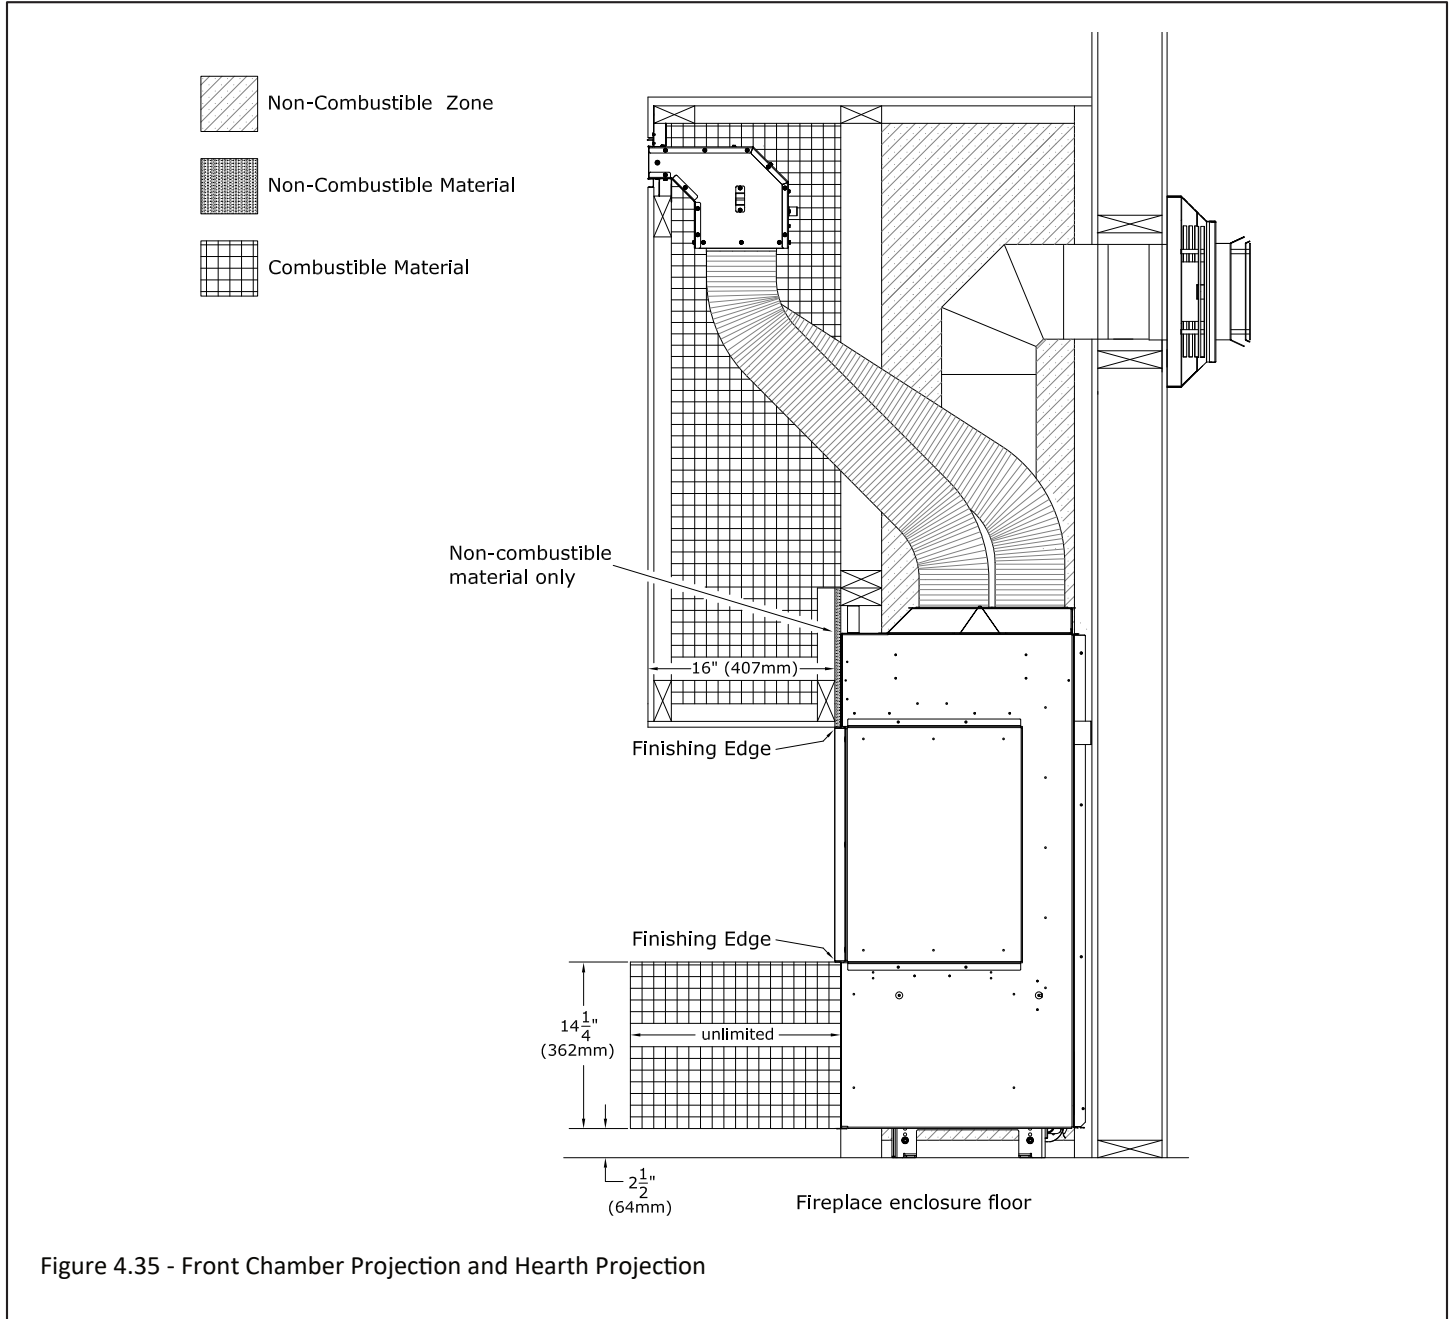

Figure 4.35 - Front Chamber Projection and Hearth Projection
- **Combustible Chamber Projections:** A maximum of a 16" (406mm) chamber projection can be installed flush at the side and top finishing edge of the fireplace. See Figure 4.35.
Figure 4.35 shows the KZK installed in a 16" front chamber projection.